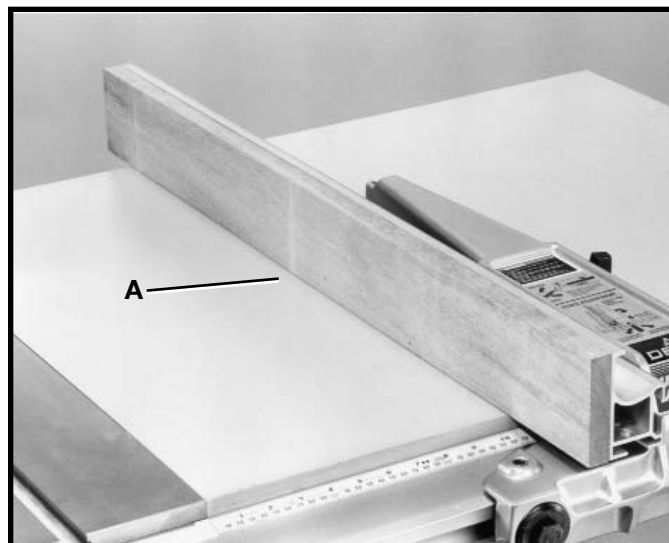

Fig. 141
It is necessary when performing special operations such as when using the moulding cutterhead to add wood facing (A) Fig. 141, to one side of the rip fence as shown. The wood facing is attached to the fence with wood screws through holes drilled in the fence. 3/4-inch stock is suitable for most work, although an occasional job may require one-inch facing.